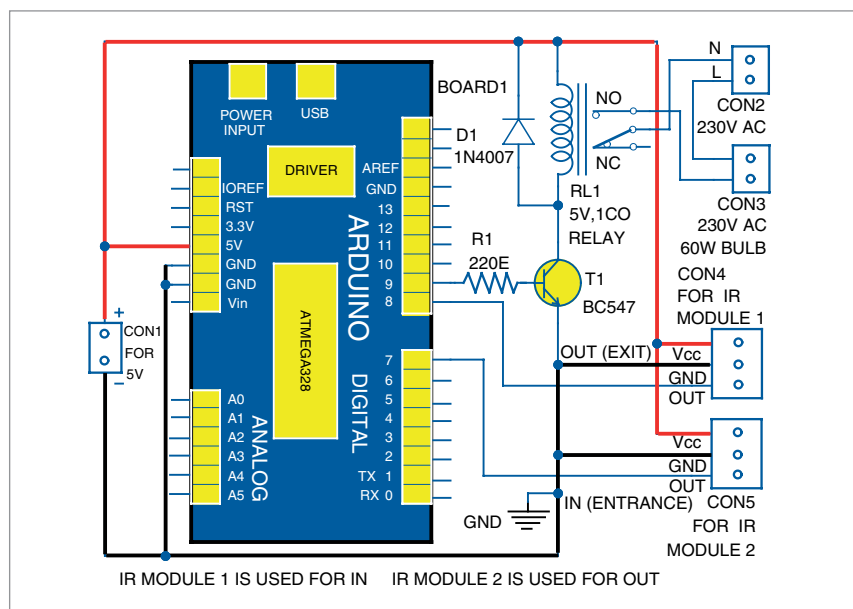

Fig. 2: Circuit diagram of automated washroom light
Circuit diagram of the automated light is shown in Fig. 2. It is built around Arduino Uno (Board1), BC547 transistor (T1), infrared (IR) sensor modules (Module1 and Module2), and relay (RL1).